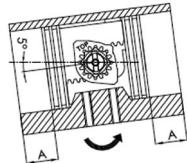

Fig. 15: Checking dimension A
- When the pistons have moved completely together, ensure that the obtained rotation with reference to the axis of the housing is slightly more than 0° and that dimension A is the same on both sides (see Fig. 15.:)